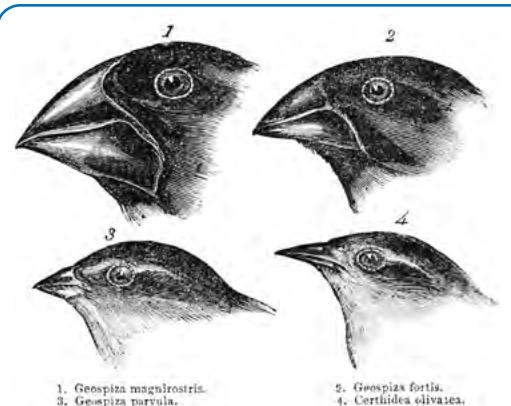

Figure 1a: Darwin's Finches by Gould.¹
- In 1837, Charles Darwin presented a collection of specimens from his voyage to John Gould, the curator at the Zoological Society of London. The latter - an ornithologist and artist - identified several birds that had been misidentified as wrens but were, in fact, new finch species. This reclassification inspired Darwin to investigate the island origin of these finches and to begin to formulate his theory of evolution by natural selection. In turn, Gould helped illustrate and edit the bird section for the book "Zoology of the Voyage of H.M.S. Beagle" (Figure 1a) along with several other bird monographs and today is known as the English Audubon.